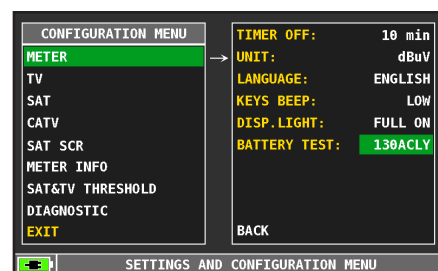

FIG. 3*
4. To check the battery test results, enter METER SETUP, select BATTERY TEST function and read the results: for example 130ACLY (fig.3) = 130 minutes. The “Y” of YES confirms that the battery is still good enough, whereas an “N” for NO indicates that it could be faulty, too deteriorated or that the cycle was interrupted.